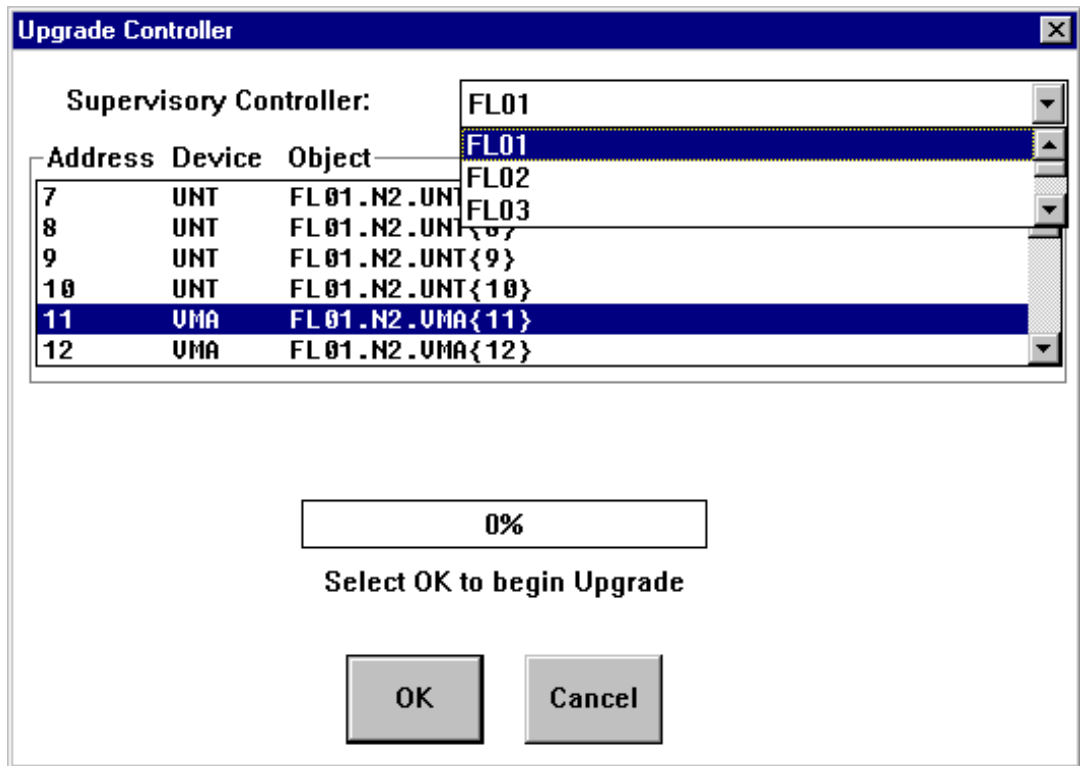

Figure 17-6: Upgrade Single Controller Dialog
4. Click OK or press Enter. The Upgrade Controller dialog box appears (Figure 17-6).